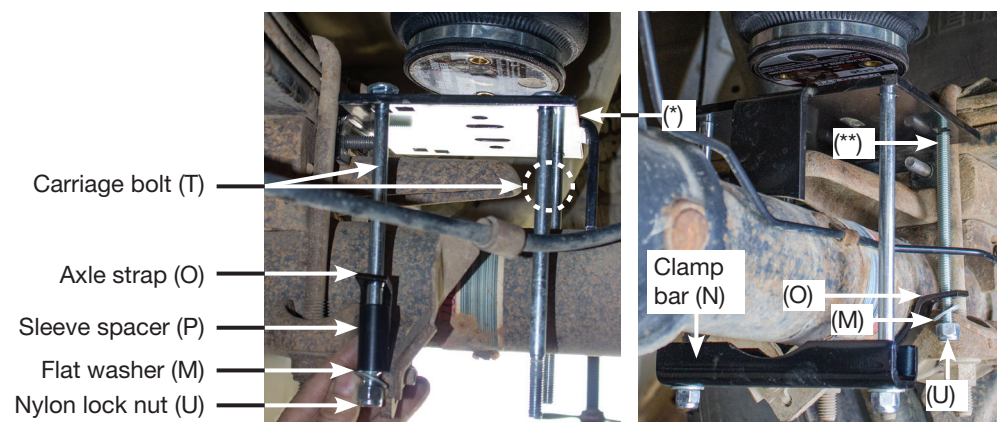
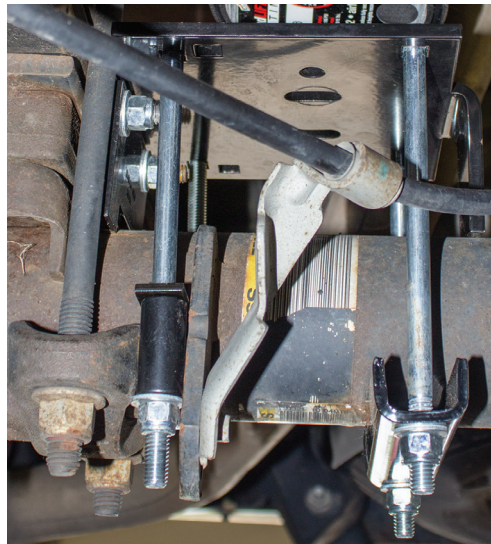

fig. 12
fig. 18
4. Passenger's (right) installation: insert two long carriage bolts (T) into the square holes on the furthest inside set of holes (Fig. 12). Set the axle strap (O) under the axle in between the emergency brake cable bracket and leaf spring retainer.
4. Passenger's (right) side: set the other lower bracket onto the axle making sure the bracket is pushed against the leaf spring and is in between the stock U-bolts. Attach the lower bracket as shown in the Figs. 12 & 13 instructions noted previously. Torque hardware evenly to 10 lb.-ft. (14Nm) (Figs. 18 & 19).